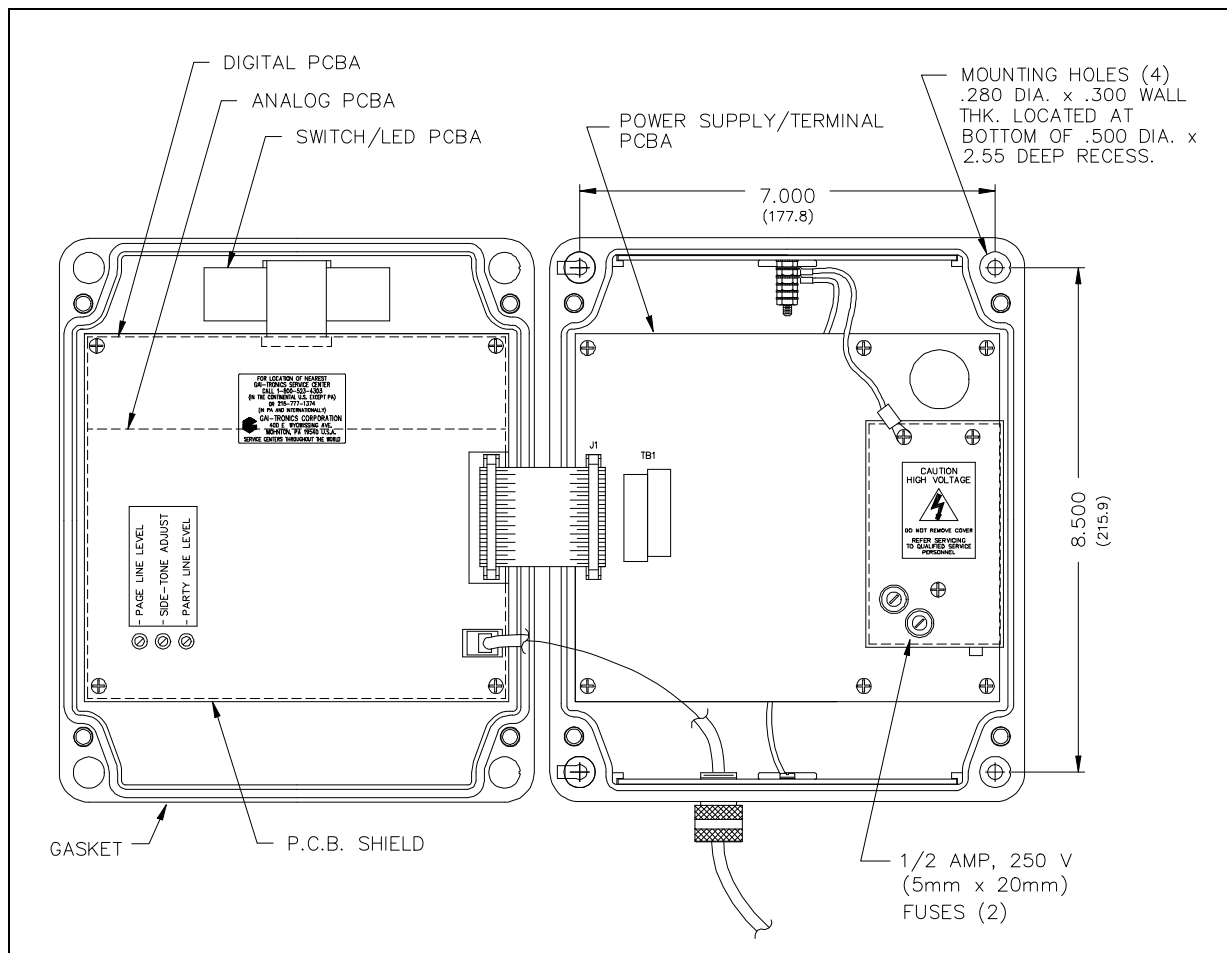

Figure 1. Mounting Details
3. Install the rear enclosure on the wall using screws in the 4 corner holes. See Figure 1 for the location of these holes.
Note: Each power input is fuse protected. The 2 fuses are located on top of the power supply shield. Both fuses are rated ½ amp. See Figure 1 for the location of these fuses.